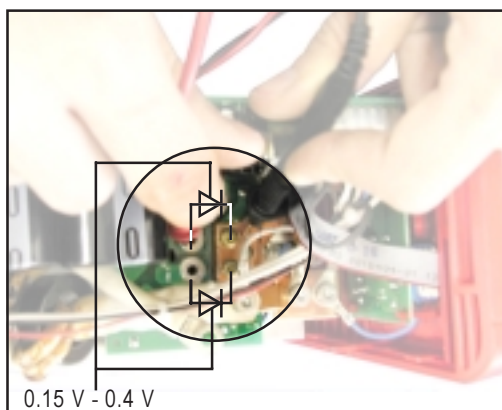

Fig.20 Measuring the diode path on the secondary diode
- Measure the diode paths in the conducting direction (Fig 20), with a diode testing device (e.g. multimeter with diode testing function)